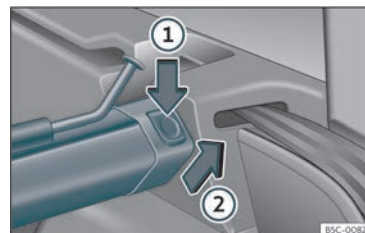

Fig. 122 In the luggage compartment: removing the net partition.
- Press the left or right release catch »» Fig. 122 in the direction of the arrow ①.
- Remove the casing from the support in the direction of the arrow »» Fig. 122 ②.
- Press the casing into the left and right supports in the opposite direction to the arrow »» Fig. 122 ② until it engages.